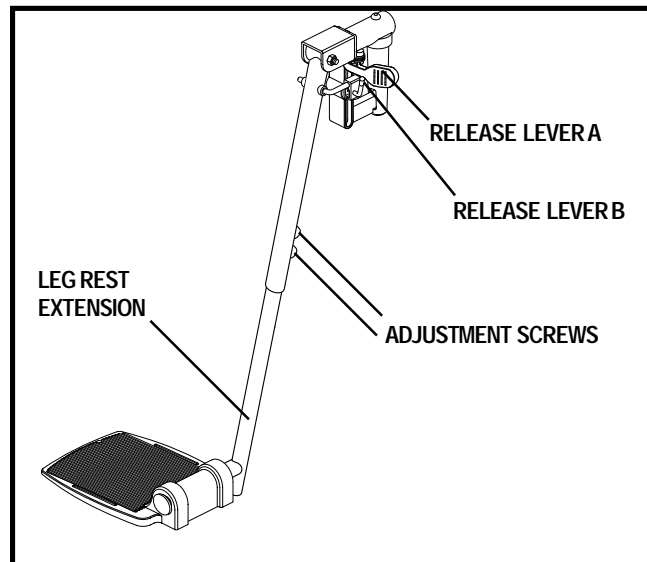

Figure 20. Elevating Leg Rests
1. Push in release lever A. See figure 20.
1. Push down release lever B. See figure 20.
1. Remove the two adjustment screws from the side of each leg rest extension. See figure 20.